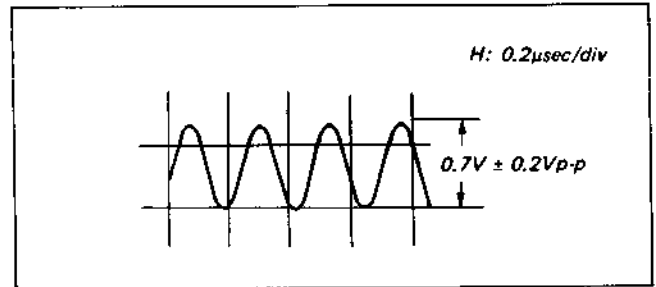

Fig. 4-31. Output level check
- (1) Do not supply the VTR with any signal and set up the E-E mode.
- (2) Connect the frequency counter to TP23 (emitter of Q34).
- (3) Adjust T7 so that the oscillating frequency is  $4.433619 \text{ MHz} \pm 5 \text{ Hz}$ .
- (4) Check that the output level is  $0.7V \pm 0.2 V_{p-p}$ . (See Fig. 4-31).